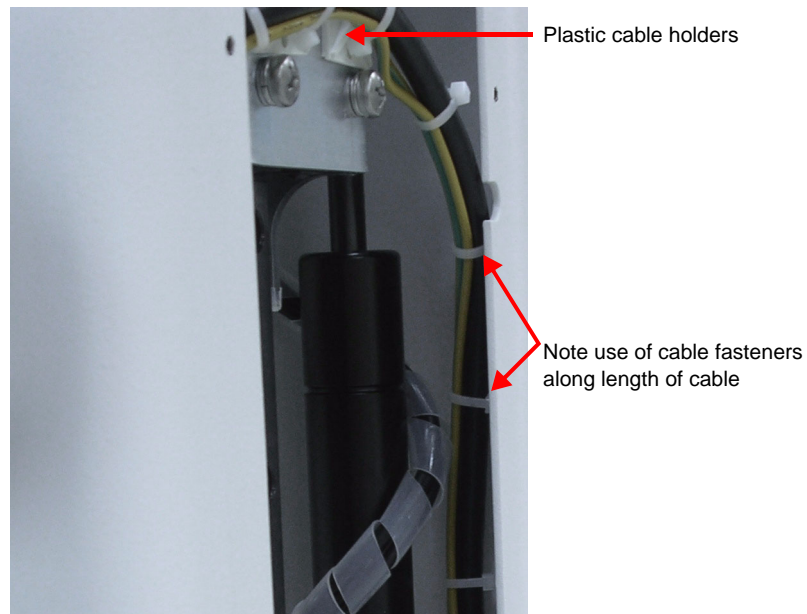

Figure 8-88 Routing of Cable Downwards inside Rear Upper Cover
- 6.) Continue routing the Peripheral AC Outlet cable towards the right hand side of the Rear Upper Cover and *downwards* - Figure 8-88.